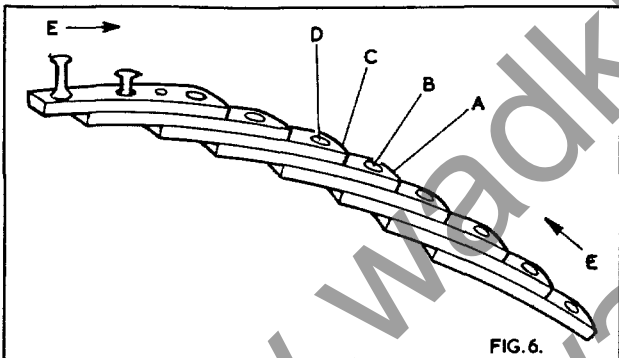

FIG. 6.
1. Prise link "A", in fig. 6, over stud "B". Then prise link "A" and "C" over stud "D". The belt can now be easily removed from the pulleys.
2. To remove the required number of links, repeat the procedure set out in item 1. To assist in the removal of these links the belt should be curved in the direction of the arrows "E", this releases the tension on the studs.